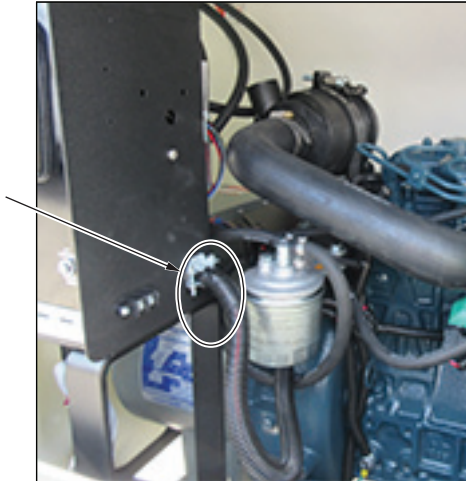

Figure 25 - Engine Harness from Control box
13. See Figure 25. Locate engine harness (exits control box through **side** strain relief). Connect wires, as follows.